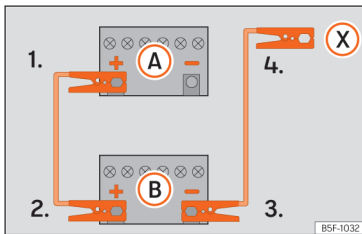

Fig. 60 Diagram of connections for vehicles without Start Stop system
2. Connect one end of the red jump lead to the positive (+) terminal of the vehicle with the flat battery (A) » » Fig. 60.
3. Connect the other end of the red jump lead to the positive terminal (+) in the vehicle providing assistance (B).
- 4a. *In vehicles without a Start-Stop system:* connect one end of the black jump lead to the negative terminal (-) of the vehicle providing the current (B) » » Fig. 60.